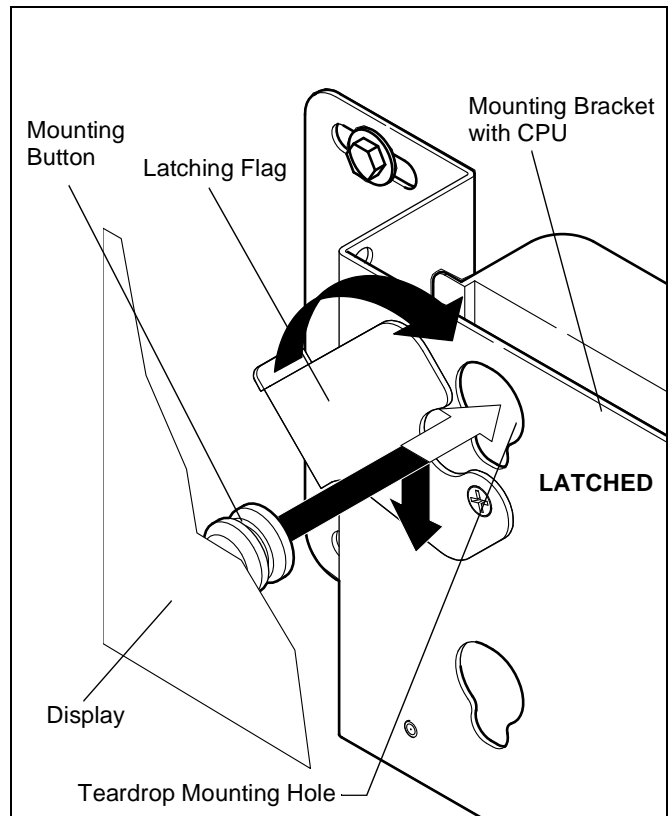

Figure 8
- Lower display until the recessed area of all six mounting buttons is seated in the lower area of teardrop mounting holes. (See Figure 8)
- Move latching flag to the "LATCHED" position to secure display to mounting bracket. (See Figure 8)